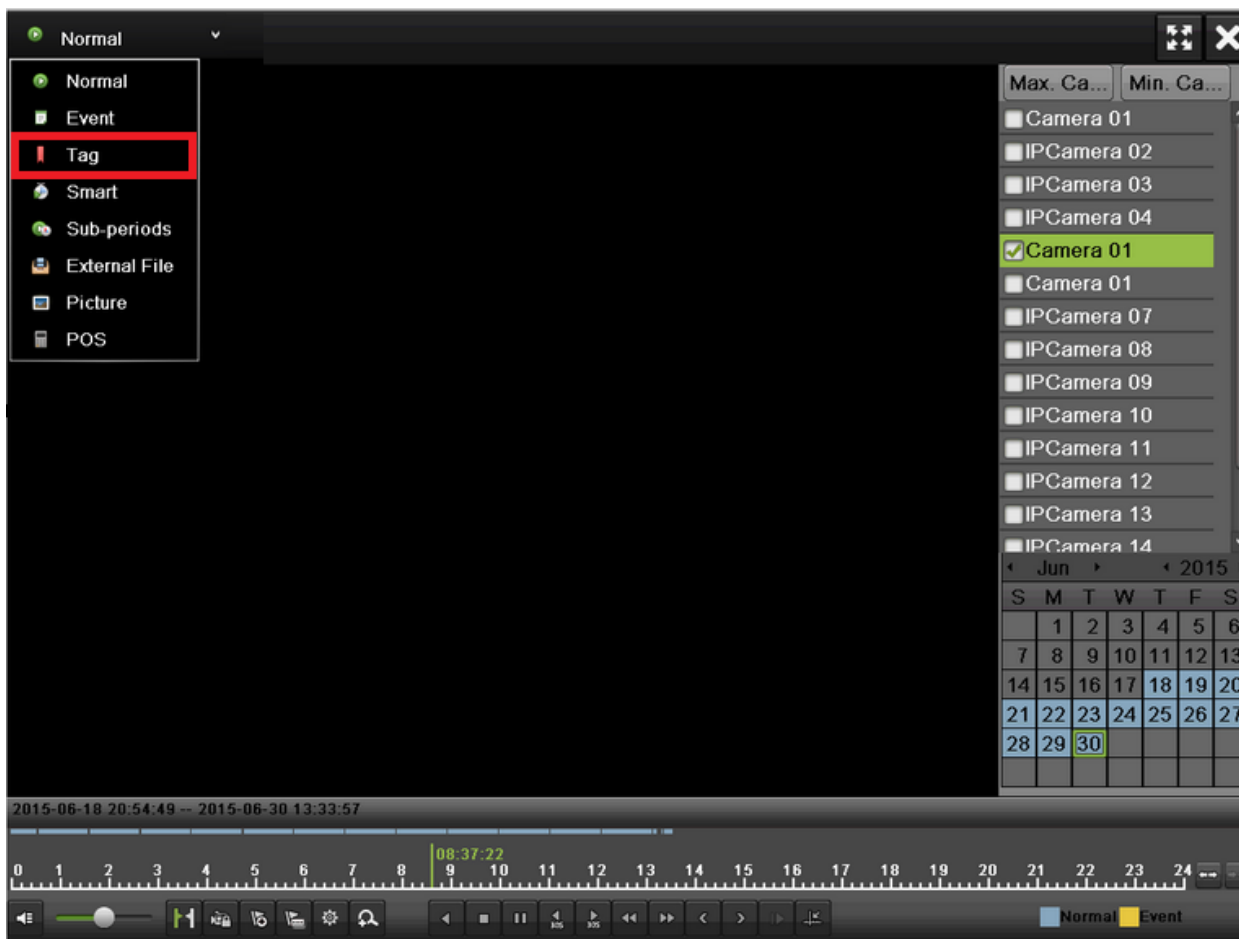

Figure 92 Tag Playback Interface
1. Enter the Tag interface, shown in **Figure 92** by going to Menu > Playback > Tag.